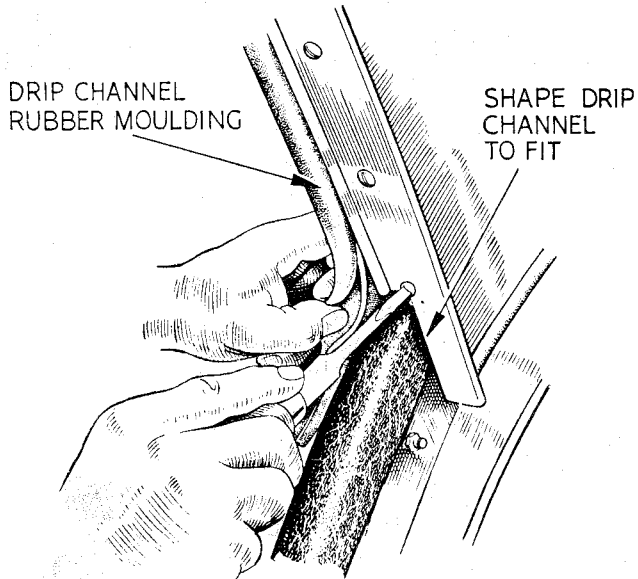

Fig. 5 Fitting lower part of Drip Channel.
6. DRIP CHANNELS—TO FIT (See Figs. 5 and 6)